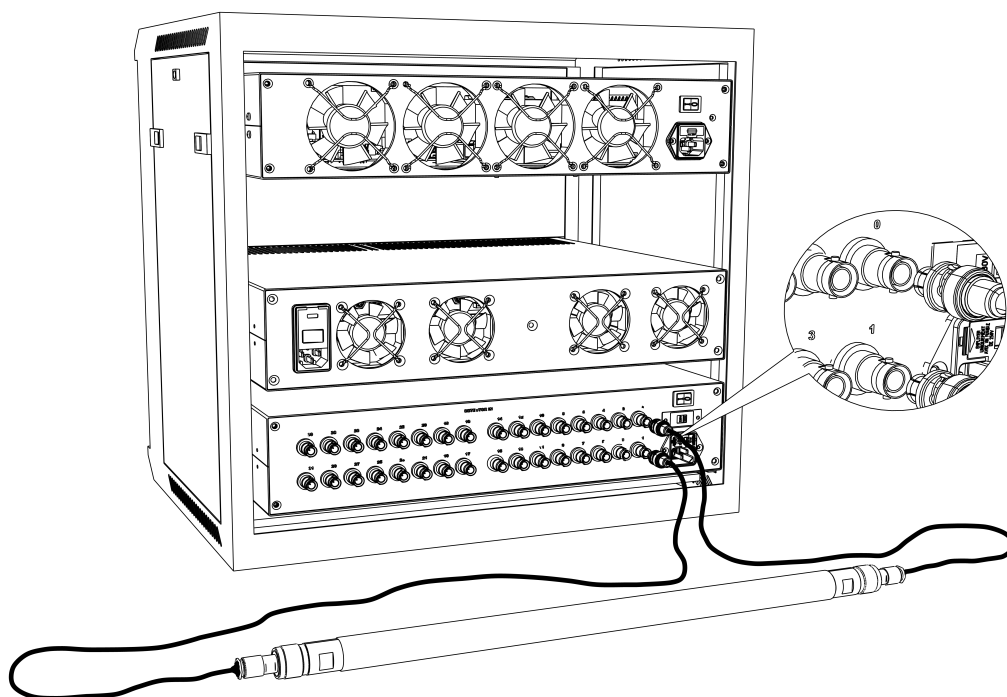

Fig. 2.5: NBrick back cables connection.
7. Use SHV cables to connect the detector to the Detector In SHV channels on the rear panel of the R1443C (Fig. 2.5).